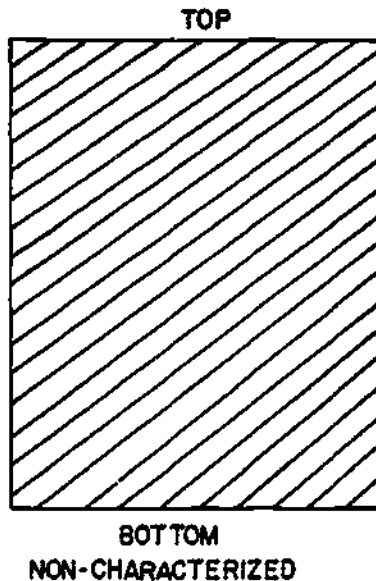
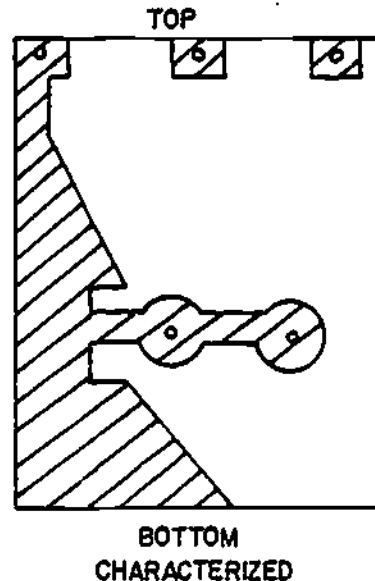

Figure 16.
Figure 17.
The inner tubes (plates) of the tank units are one of two types: (1) the non-characterized type which is used in tanks that are uniform in design such as a square or rectangular shaped tank, and (2) the characterized type which is used in tanks that are irregular in design. The non-characterized type inner plate is made so that the complete plate capacitance is used in the system. See figure 16*. The characterized type inner plate, as shown in figure 17*, is not uniform in width (shaded area) along the plate length because of the irregular tank that it is to be used in. This type of inner plate consists of two metal patterns (shaded and white) which are insulated from each other and pressed together to form the inner plate. The tube is coated with a phenolic resin varnish to prevent shorting. The active area (shaded) is attached to a signal lead and the white area is connected to ground to remove the unwanted capacitance from the system. With this set-up, the correct capacitance is achieved so that an evenly graduated indicator can be used regardless of the shape of the tank.